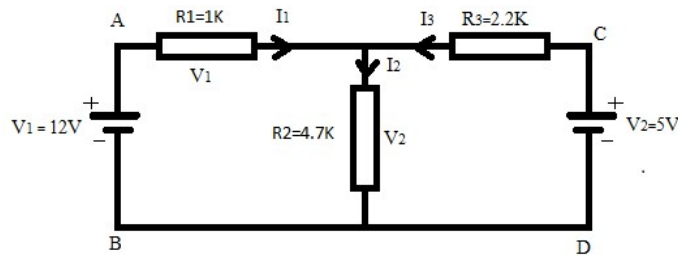

Figure 1 Circuit diagram
6. Now consider both the sources V_1 and V_2 . Measure voltage across R_1, R_2 and R_3 . (Figure:1)